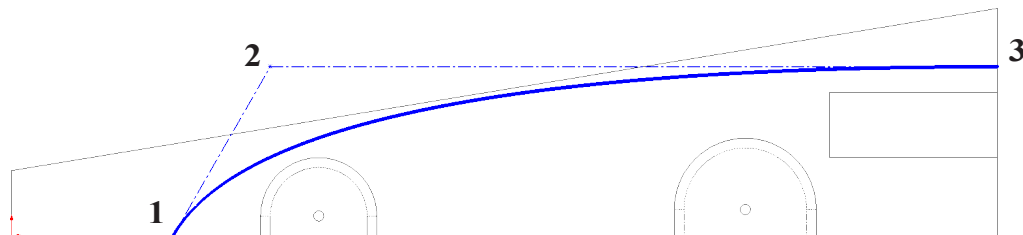
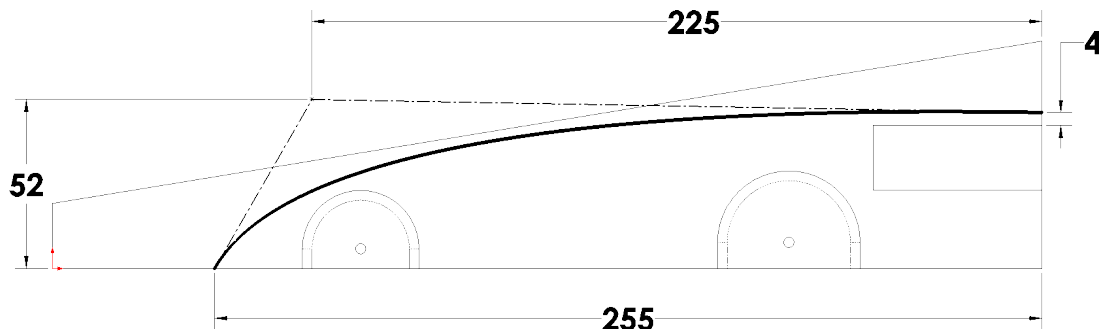

Fig. 22
Fig. 23
Step 6. Sketch a **3 control vertex point Style Spline** between bottom edge of Body and back edge of Body, **Fig. 22**. To sketch Style Spline, click bottom edge of Body between front of Blank and Wheel shell for 1st control vertex point. Click above front Wheel shell for 2nd control vertex point. Then, click rear edge of Body above Cartridge hole for 3rd control vertex point. Press Escape to end spline.
Step 7. Click **Smart Dimension**  (S) on the Sketch toolbar.
Step 8. Add dimensions, **Fig. 23**.